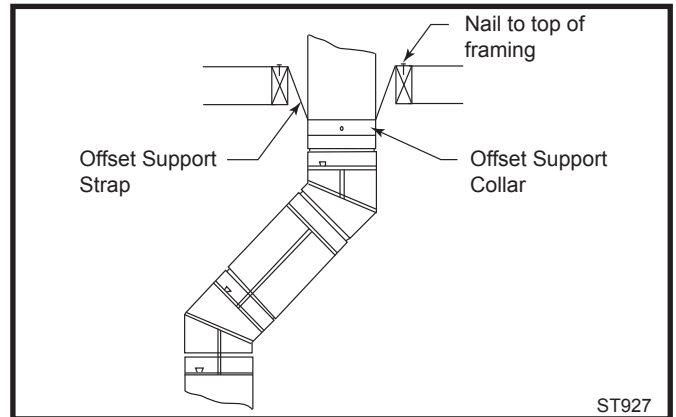

Fig. 40 Offset support.
If any offsets are necessary in the vertical system, an Offset Support (OS) should be installed directly above the upper elbow of the offset. Install by attaching the offset support band to the pipe with two #8 x 1/4" sheet metal screws (minimum) and secure the offset support straps to surrounding structure. (Fig. 40)